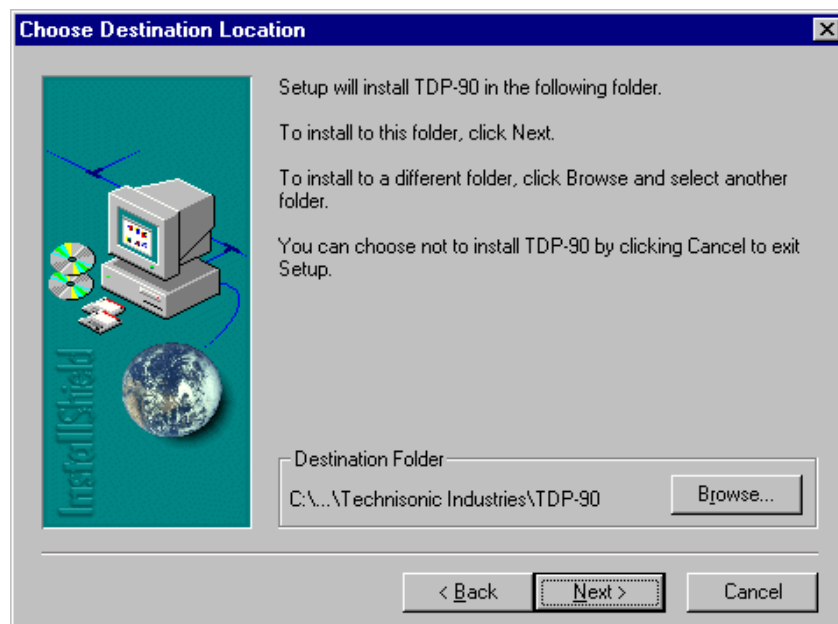

Figure 2.1.4 - Program Installation Dialog
4. After setup finishes unpacking the software, a dialog box will pop up with the option to continue (by clicking on the **Next>** button see Figure 2.1.4), exit the setup, or at this time you may choose an alternate location for the installation. If you have no objections to the default location just click on the **Next>** button to continue the installation.
2. After setup finishes unpacking the software, a dialog box will pop up with the option to continue (by clicking on the **Next >** button see Figure 2.1.4), exit the setup, or at this time you may choose an alternate location for the installation. If you have no objections to the default location just click on the **Next >** button to continue the installation.
2. After setup finishes unpacking the software, a dialog box will pop up with the option to continue (by clicking on the **Next>** button see Figure 2.1.4), exit the setup, or at this time you may choose an alternate location for the installation. If you have no objections to the default location just click on the **Next>** button to continue the installation.